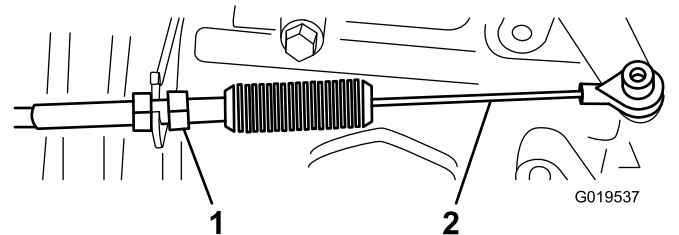
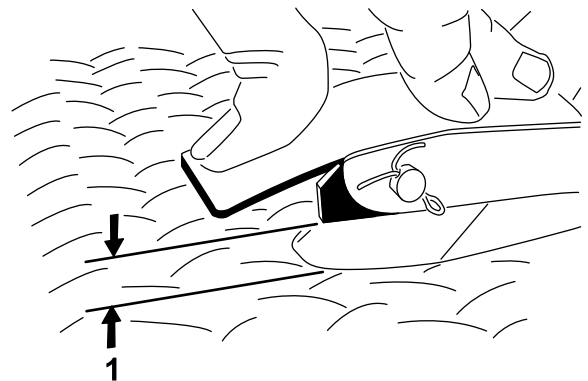

Figure 62
Figure 63
2. Adjust the ball joint on the accelerator cable (Figure 62) to allow 2.54 to 6.35 mm (0.100 to 0.250 inch) of clearance between the accelerator pedal arm and the top of the diamond tread floor plate (Figure 63), when you apply 11.3 kg (25 lb) of force to the center of the pedal.
3. Tighten the locknut (Figure 62).